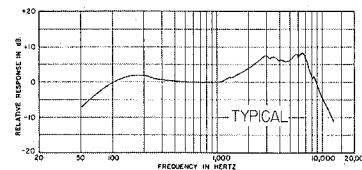

FIGURE 1
**Frequency Response:** 50 to 13,000 Hz (see Figure 1)